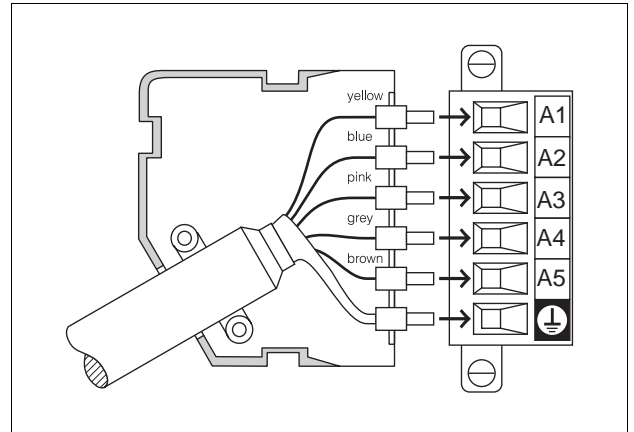

Fig. 2-4 Motor connection – unit side
1. Loosen screws and remove motor connector (fig. 2-4).